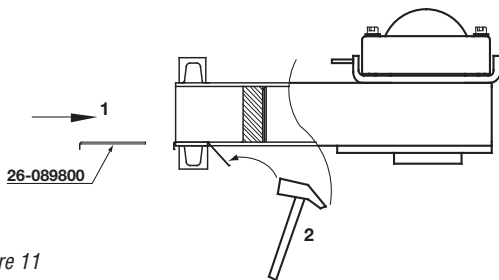
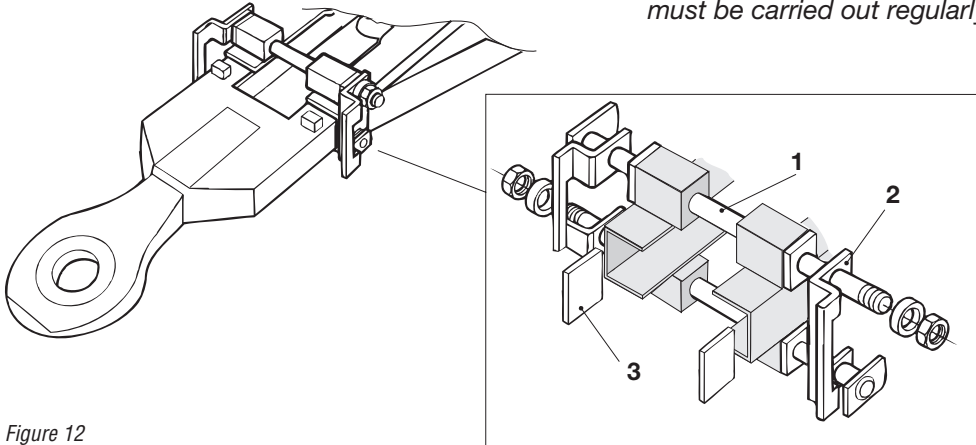

Figure 11
Figure 12
\* Play can be reduced by using wear plates 26-089800. These can be added both above and below and if necessary more than one wear plate at each location. See figure 11.
For maximum length of life there should be no sideways play between front and rear sections. See figure 12 for adjustments. Bolts etc. must be regularly checked for tightness. If driving is carried out for longer periods in one position, the adjustment bolts should be tightened to reduce wear and play. A rebuild kit 26-075700 is recommended for older drawbar models.
12:1 Remove the adjustment bolts (see *figure 12*, item 1), stop plates (2) and wear plates (3) plus any wear sheets if installed, see *figure 11*.
12:3 Re-mount the adjustment bolts as per *figure 12*.